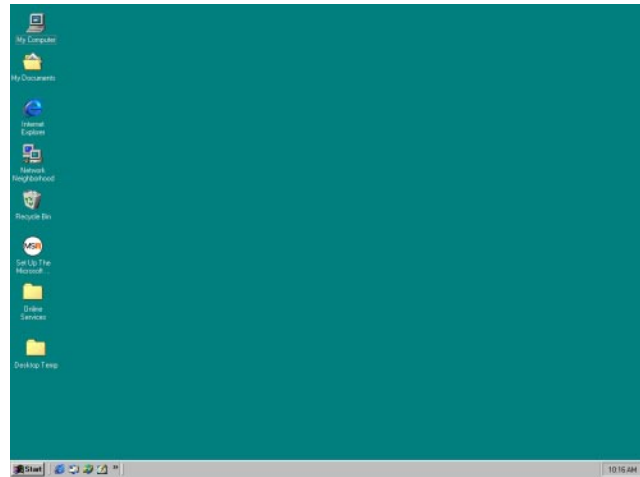

Figure 3-6
2. Boot the aligner to the Windows desktop. (Figure 3-6)